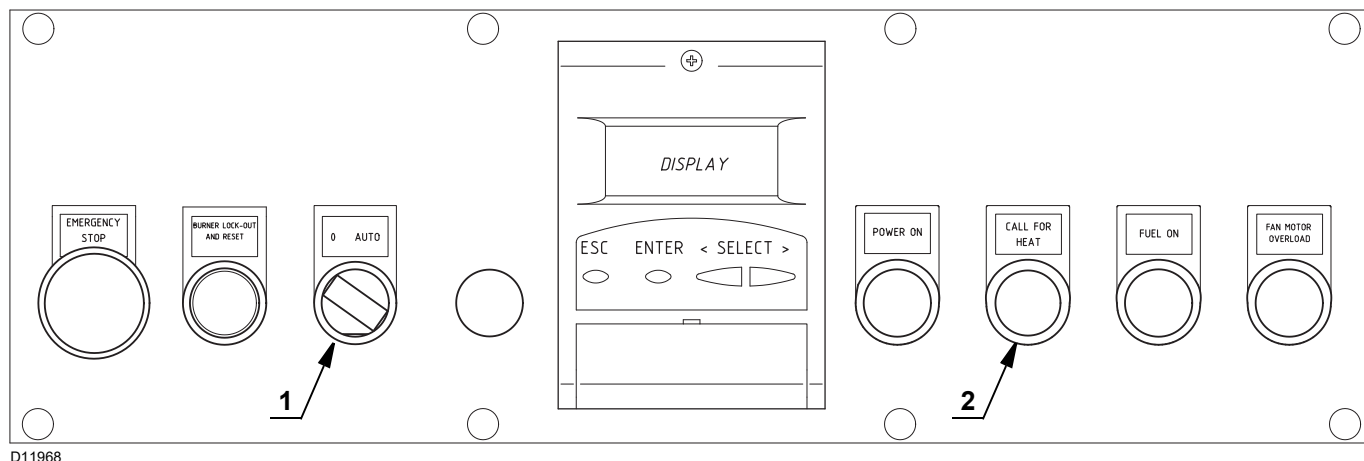

Fig. 29
Close the remote controls and position the selector 1)(Fig. 29) to **"AUTO"**.
When the limit thermostat (TL) is closed, the **"HEAT REQUEST"** 2)(Fig. 29) signal must be on and the burner starts the starting cycle.